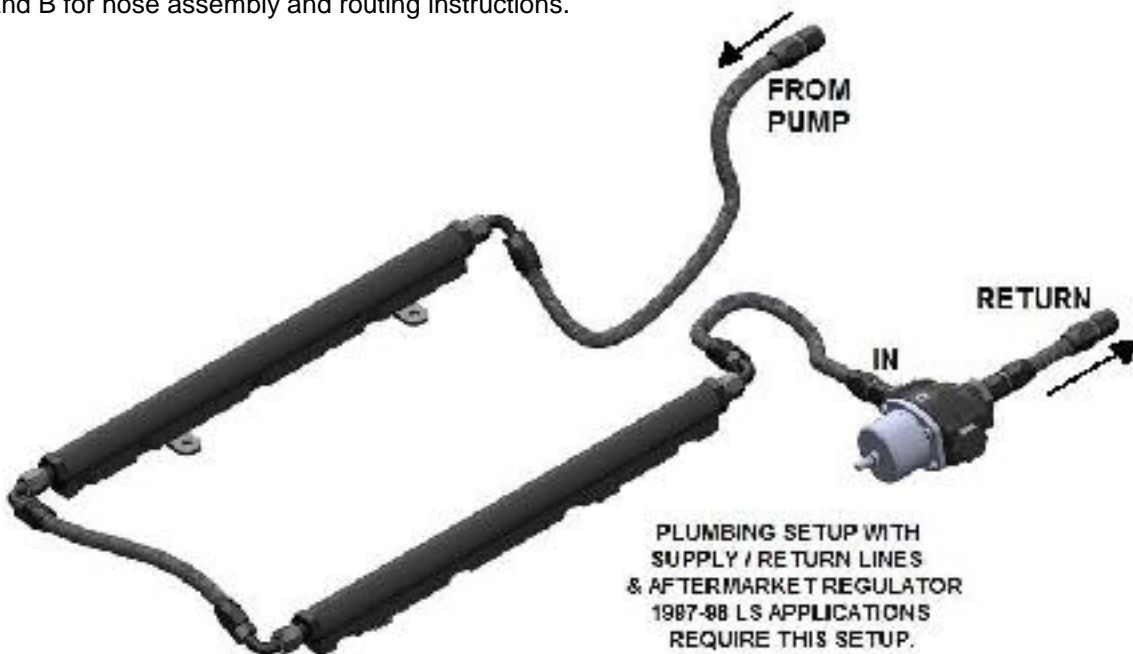

Figure 7
20. Plumbing will vary per application. Below is an example of two configurations (Figures 7 & 8). Refer to Part A and B for hose assembly and routing instructions.